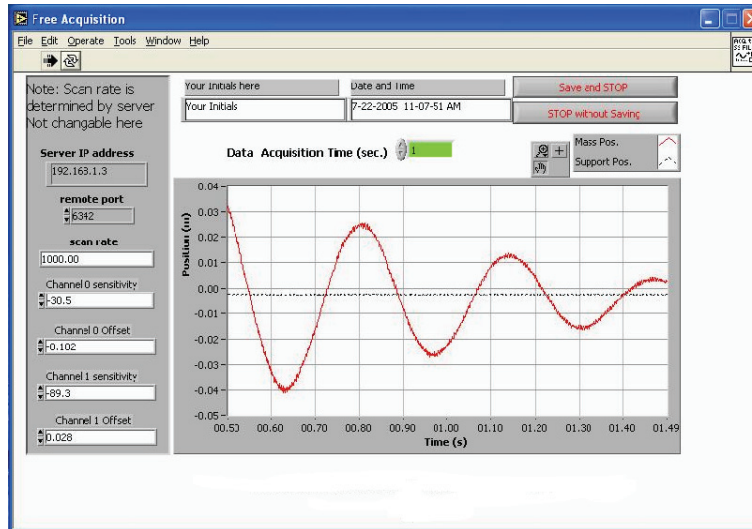

Figure 1.7: The *FreeAcq* program.
1. *FreeAcq* (Figure 1.7) for acquiring data on the unforced system;